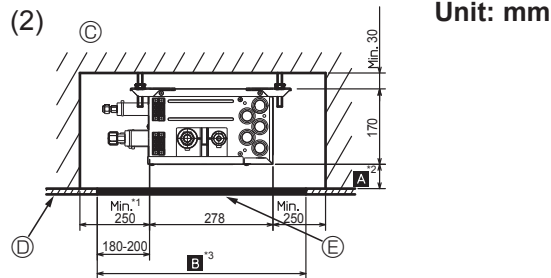
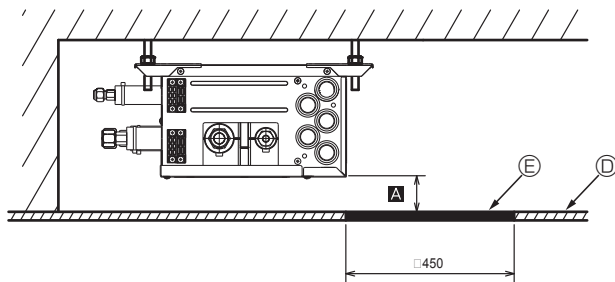
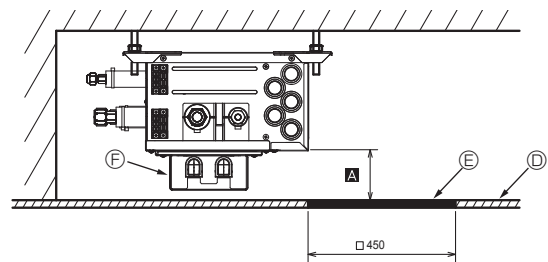

Fig. 2-2
Fig. 2-3
Fig. 2-4
(2) Side View (Fig. 2-2, Fig. 2-3, Fig. 2-4)
To install the optional reactor box, set Ⓐ to Min 270 mm <recommendation>. (Fig. 2-4)
In the case of "450 mm", prepare a maintenance hole at a PCB side (as it is shown in Fig. 2-3, Fig. 2-4), and "Min 300 mm" is needed as distance Ⓐ.